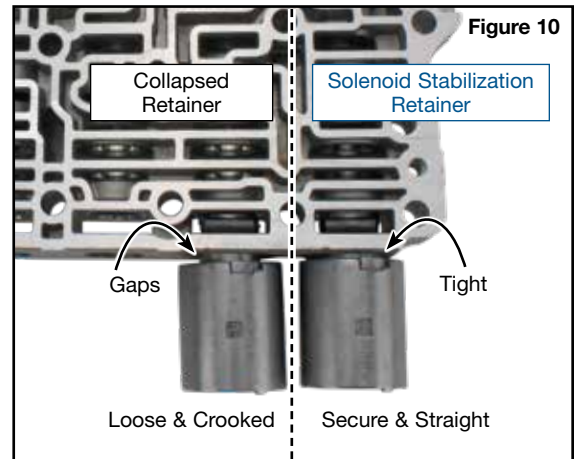
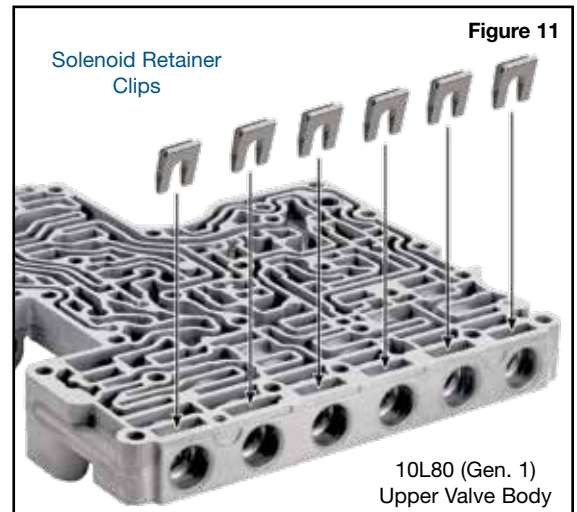

Figure 10
Figure 11
- Install Sonnax solenoid stabilization retainer into the gap around the shift solenoid shaft (**Figure 10**). The direction of the clip should be as shown (**Figure 11**). The long flat surface should be contacting the valve body wall inside the gap.